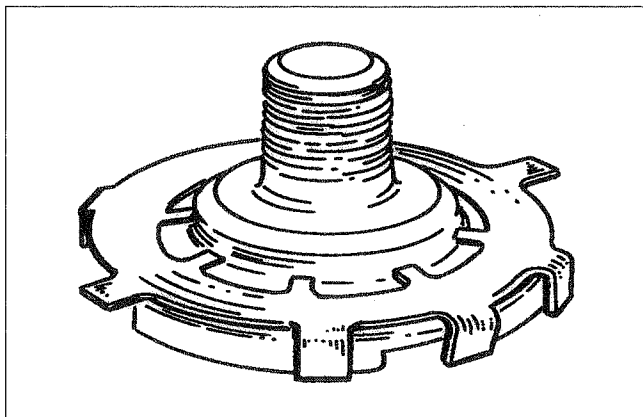

Figure 10
3. Apply never seize compound to the threads of the retainer and both sides of the friction washer (Figure 10).